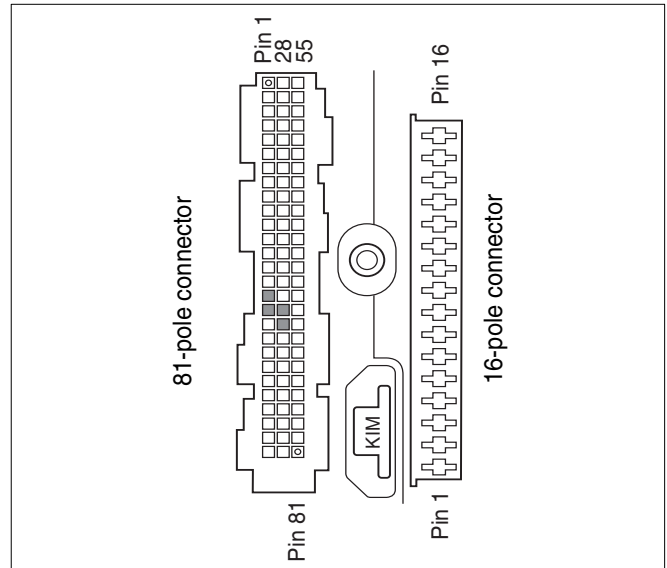

Fig. 50 UBA3 installation base
- Test the tacho cable to make sure that there is no short circuit in it and that it is not broken (see fig. 50).